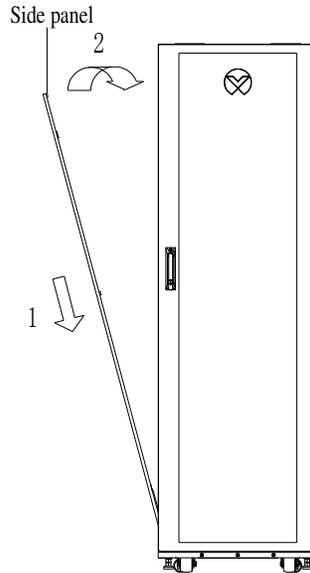

Figure 3-6 Side Panel Mounting
1. Embed the side panel in the correct direction (latch up) between the front and rear EIA rails, and place the lower end on the crossbeam below the rack, as shown in Figure 3-6.